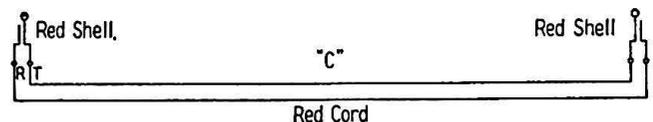

Fig. 2.—Patching Cords
2.03 Only one type of cord is required in making service and testing patches at the printer service position. This is the "C" cord shown in Figure 2.
Fig. 4.—Schematic circuit similar to Fig. 2 but in this case "Mon." jack is connected in series with the subscriber's loop to "Loop 3" jack (used where there are no loop jacks available for separate use).